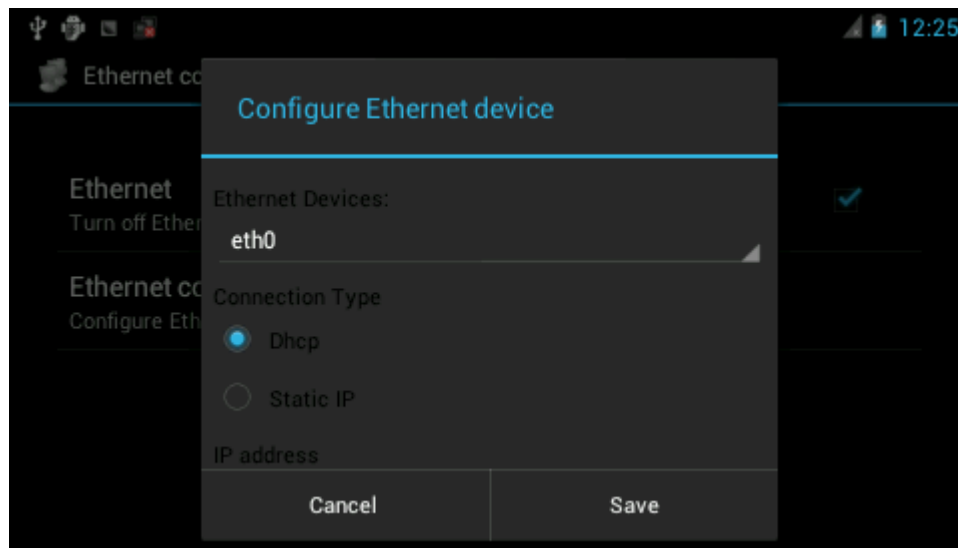

Figure 4-22
(2) Configure Ethernet, Select "Dhcp" to obtain dynamic IP. Otherwise, select "Static IP" to set IP address, subnet mask, DNS server, default gateway.. manually. Refer to figure 4-22: